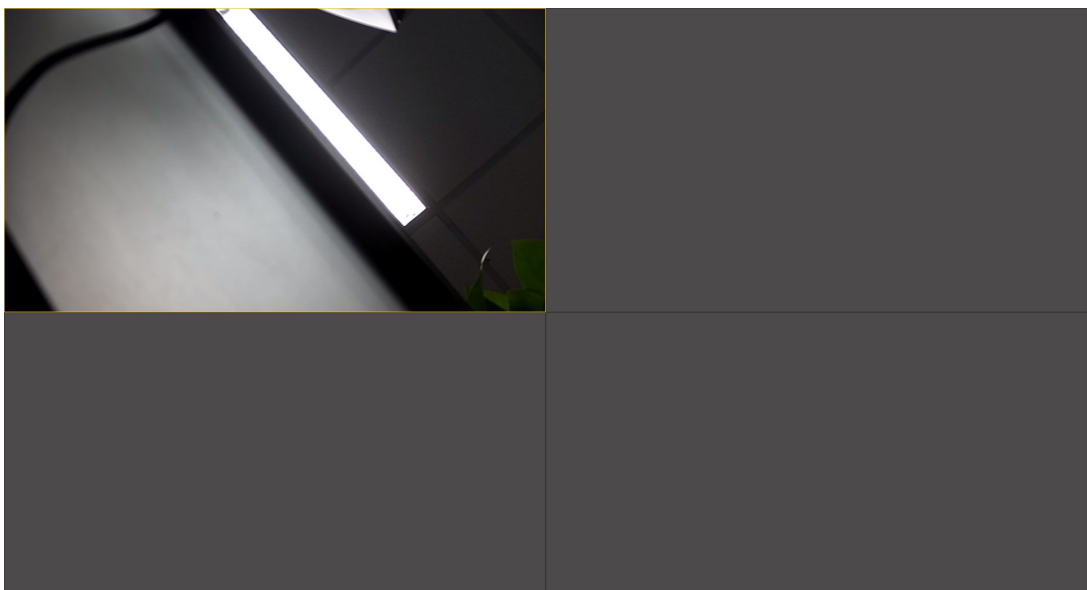

Figure 14-24 Full screen display
2. Click the **FULL SCREEN** button at the bottom of the page. The right playback window is displayed in full screen, as shown in Figure 14-24.